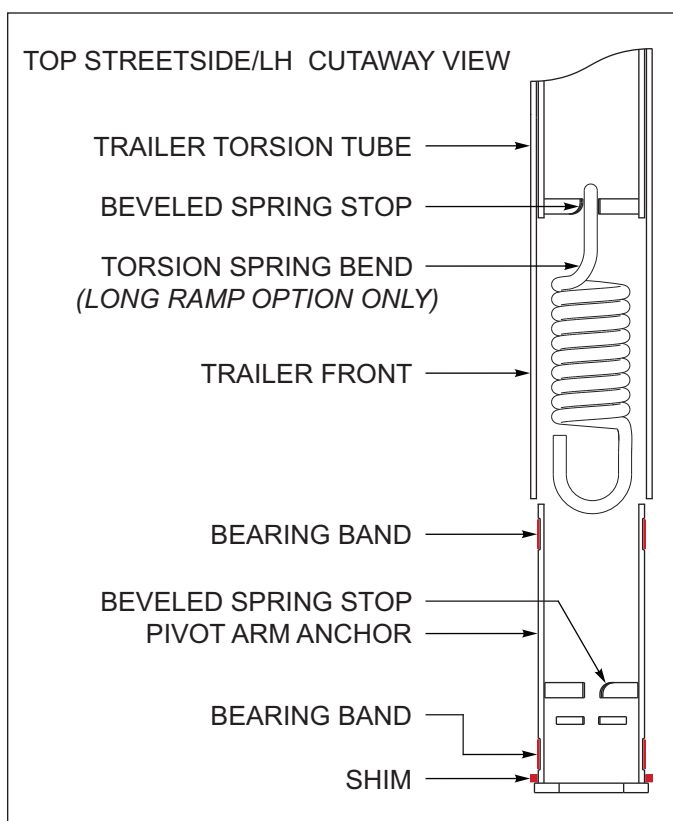

Figure 5-25: Pivot Anchor Assembly
1. For Long Ramp Option Only: The torsion springs are directional and specific to each side of the trailer. Align the torsion spring bend to the trailer torsion tube beveled spring stop. Push in the spring until it stops. Inspect torsion spring bend forms to the trailer torsion tube bevel stop. And if the top of the spring rotates forward, the spring will coil tighter and not uncoil. *See Figure 5-25.*
2. Install one shim and two bearing bands onto the pivot arm anchor for each side of the trailer. *See Figure 5-25.*
3. For Long Ramp Option Only: On each side of the trailer rotate and align the pivot arm anchor beveled spring stop to the torsion spring bend. Push in the pivot arm anchor until it stops. Inspect torsion spring bend forms to the pivot arm anchor bevel stop. *See Figure 5-25.*